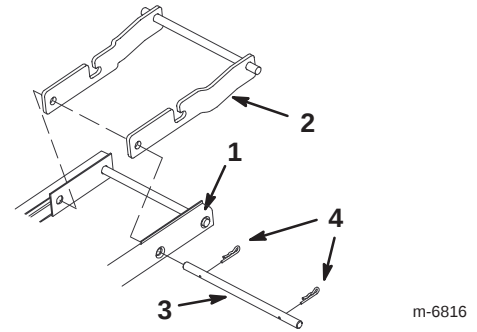

Figure 8
1. Insert the bar at the back end of the frame into the notches in the dozer extension (Fig. 8).
2. Align the holes in the dozer extension with the holes in the frame (Fig. 8).
3. Slide the shaft through the holes in the frame (Fig. 8).
4. Insert the 2 hairpin cotters as shown in Figure 8.